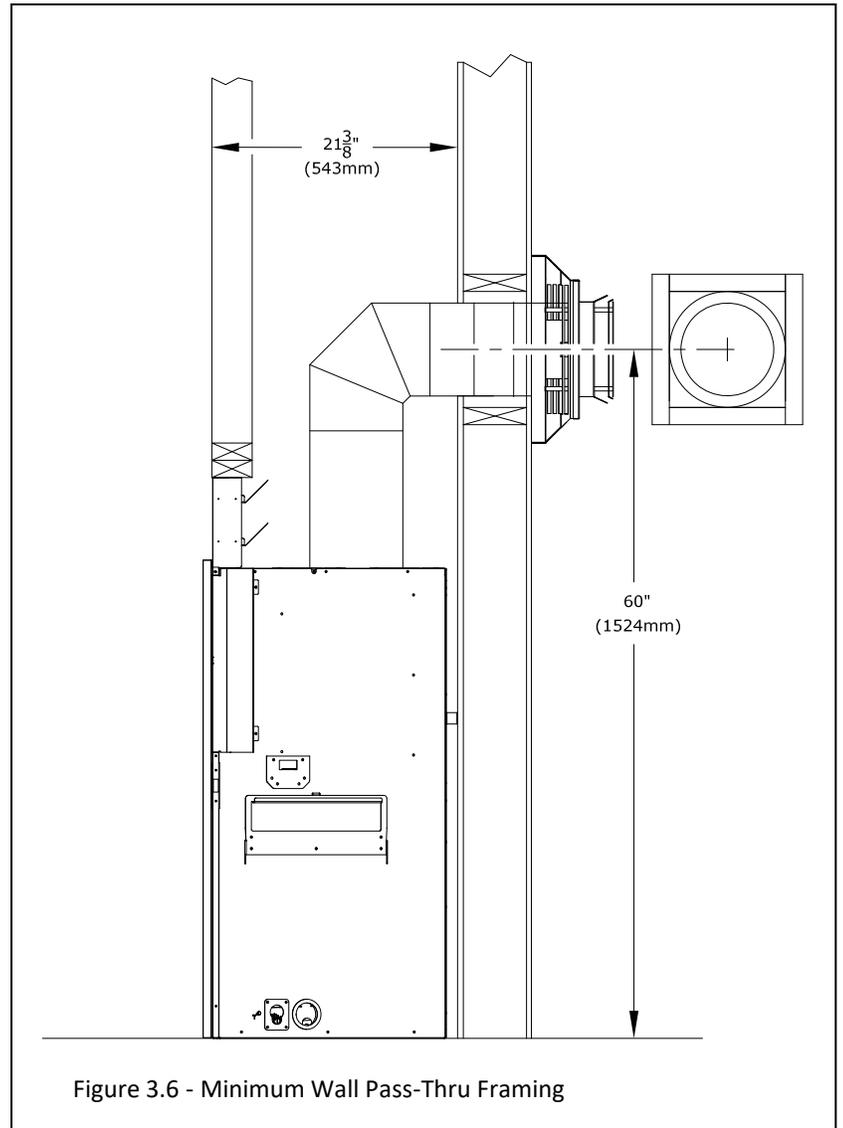

Figure 3.6 - Minimum Wall Pass-Thru Framing
Follow FIGURE 3.6 below for minimum rough-in dimensions.
1. Measure from floor level of the fireplace to the center of where the vent pipe will penetrate the wall. The dimension in FIGURE 3.6 is used with a Simpson DuraVent elbow.